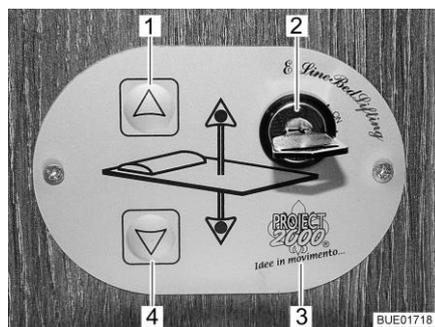
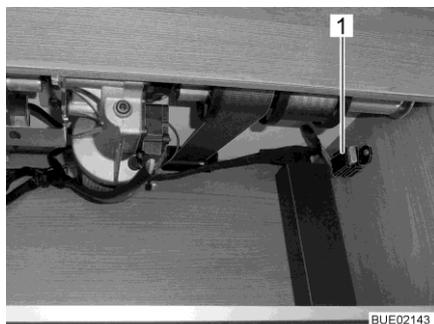

Fig. 145 Control unit
Fig. 149 Fuse
The pull-down bed is raised or lowered using the buttons (Fig. 145,1 and 4) on the control unit (Fig. 145,3). The control unit is protected against unauthorized use with the key switch (Fig. 145,2).
- Turn the key in the key switch (Fig. 145,2) through 90° clockwise. The control unit (Fig. 145,3) is activated.
- Press the arrow key (Fig. 145,4) and keep it pressed until the pull-down bed has moved down into the desired position.
- Press the arrow key (Fig. 145,1) and keep it pressed until the pull-down bed has moved down into the final upper position.
If it is no longer possible to move the pull-down bed with the arrow keys (Fig. 145,1 and 4), first of all check the fuse in the rear wall-mounted cupboard (Fig. 149,1). If the fuse is okay and it is still not possible to move the pull-down bed, the pull-down bed can be operated manually.